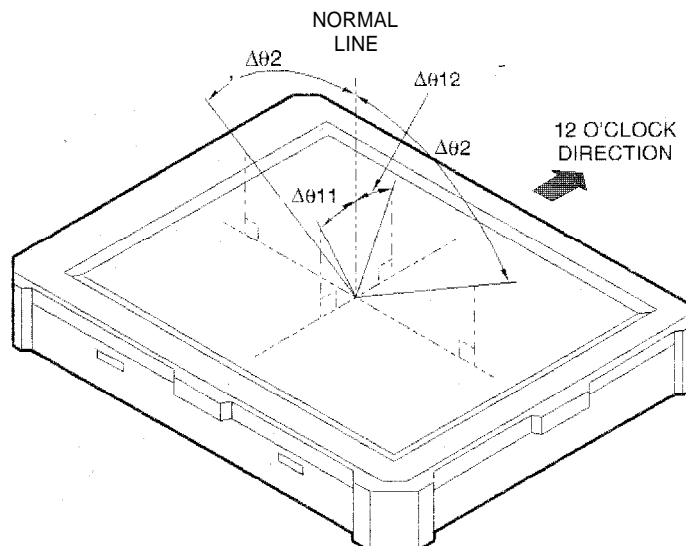

Figure 8. Definition of Viewing Angle Range
- Viewing angle range is defined in Figure 8